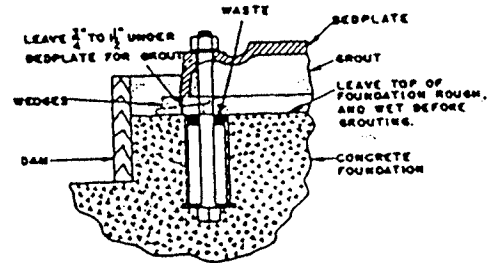

Figure 2
The I. D. of the sleeve should be $2\frac{1}{2}$ -3 times the bolt diameter. Place a washer between the bolt head and sleeve to hold bolts. See Fig. 2.
7. Build wood dam around foundation as shown in Fig. 2, and thoroughly wet top surface of foundation. Pour grout in hole provided in top of bedplate. Use of non-shrink grout is recommended. Grout should be thin enough to flow out under the bedplate but not so wet that sand and cement will separate. Grout should be puddled continuously as it is poured to expel the air and completely fill the space under the bedplate to the level of the grout hole. Strike along top of dam with trowel to give a neat finished appearance. Allow grout to harden at least 48 hours.